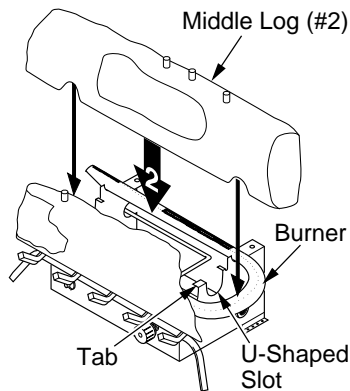

Figure 28 - Installing Middle Log (#2) (CCL3930NTA Shown)
2. Place the base of the middle log (#2) in the U-shaped slots of the grate base. The cutout on the right of the middle log should fit over the burner (see Figure 28). Make sure the front of the middle log is resting on the tabs of the grate base.